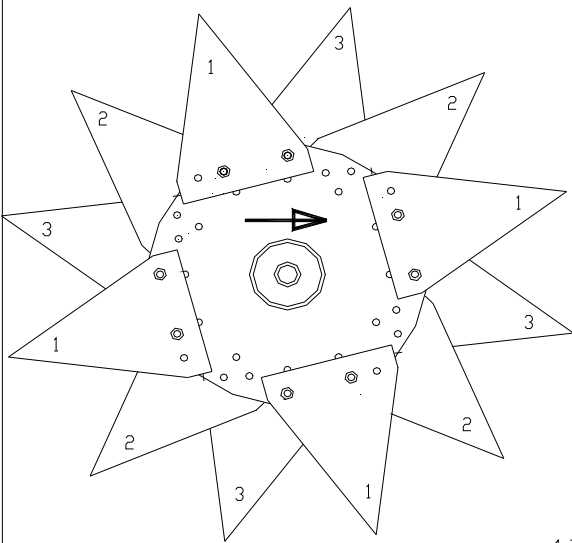

Fig. 4.
7. The truckster knives (standard delivered with machine), can be mounted to the rotor, as shown in Fig.4. In Fig.4. four knives are evenly fitted at a disk. On the next disk, the knives should be mounted with an offset. In Fig.4 this is indicated with a number on the knives. One means the first disk etc. Mount the knives exactly the same way as drawn in Fig.4. For more information on knives and the assembly, see Chapter 12.